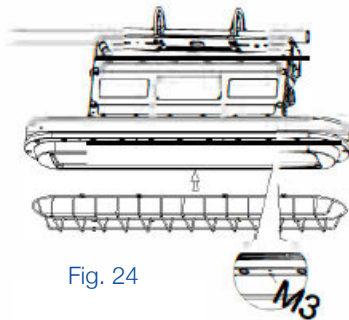

Fig. 24
1. There are already 8 M3 screw holes on the cover of the fixture (Fig. 24).